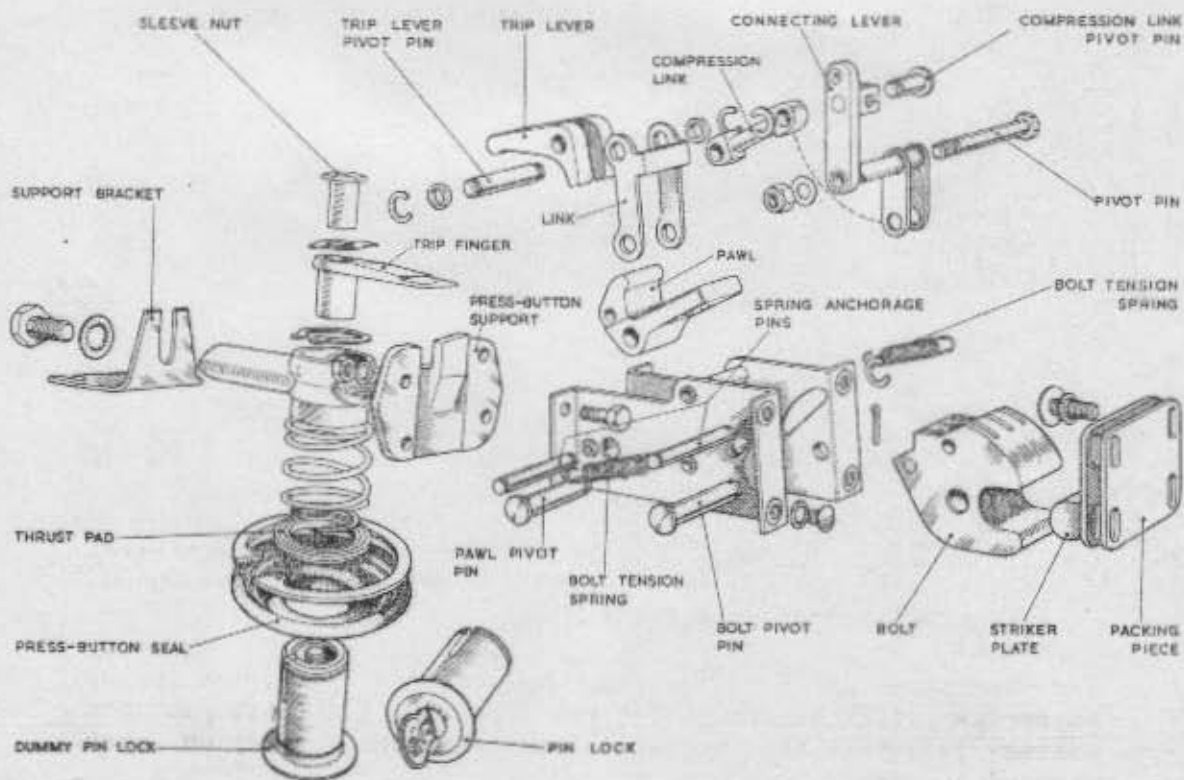

Fig.42. Door Lock Assembly.
1. Assemble the trip lever, link and compression link, and secure them to each other with the appropriate pin, collars and circlip; Fig. 42 illustrates the location of these parts in relation to each other and to the lock frame.